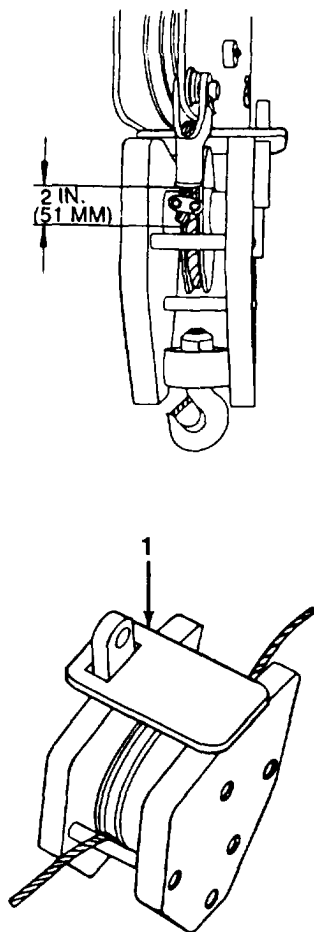

Figure 5-3. *Preparation for Raising the Hook Block*
- c. Remove plate (1) from top of hook block (Figure 5-3) and stow in tool box.